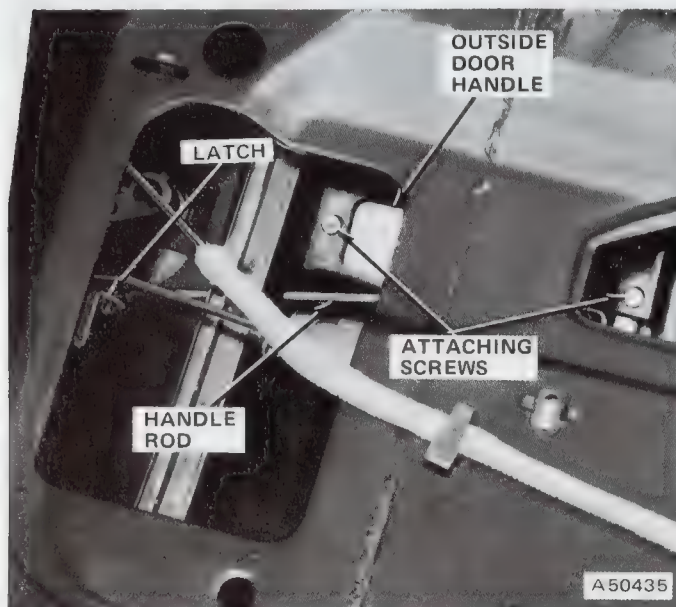

Fig. 3J-14 Outside Door Handle Replacement—Pacer
- (1) Remove door trim panel and water dam paper.
- (2) Raise window to closed position.
- (3) Disconnect outside handle-to-door latch rod at handle (fig. 3J-14).
- (4) Remove attaching screws from handle assembly using Torx Bit Tool J-25359-02 and remove handle assembly.